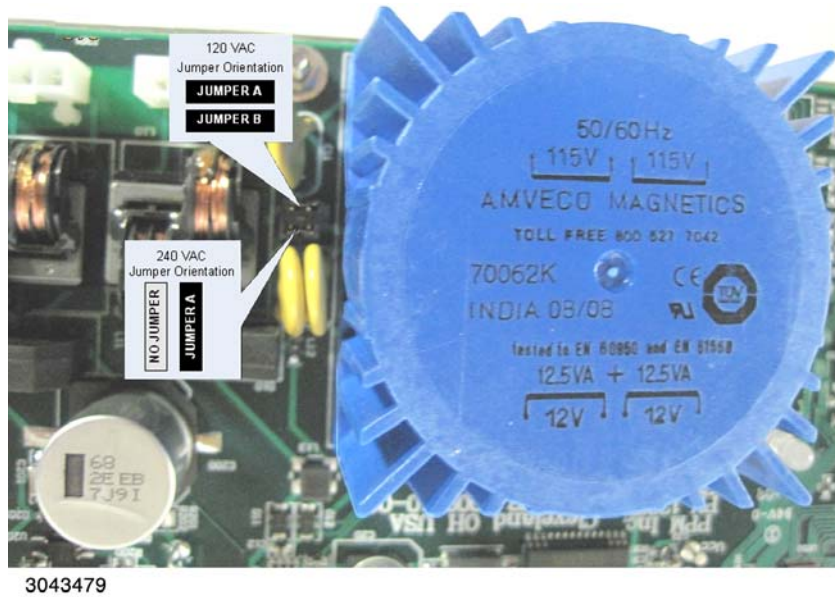

FIGURE 2-6. LINE VOLTAGE SELECTION JUMPER ORIENTATION
- f. Raise Master Control Board assembly until the two small black mains voltage selection jumpers are visible (see Figure 2-6). NOTE: It may be necessary to remove nut securing wire strap holding front fan connector wires to fully remove board.
4. Using long-nosed pliers, remove the jumpers and relocate them to the desired position (see Figure 2-6). NOTE: Two jumpers used for 120V a-c operation, only one jumper used for 240V a-c operation.